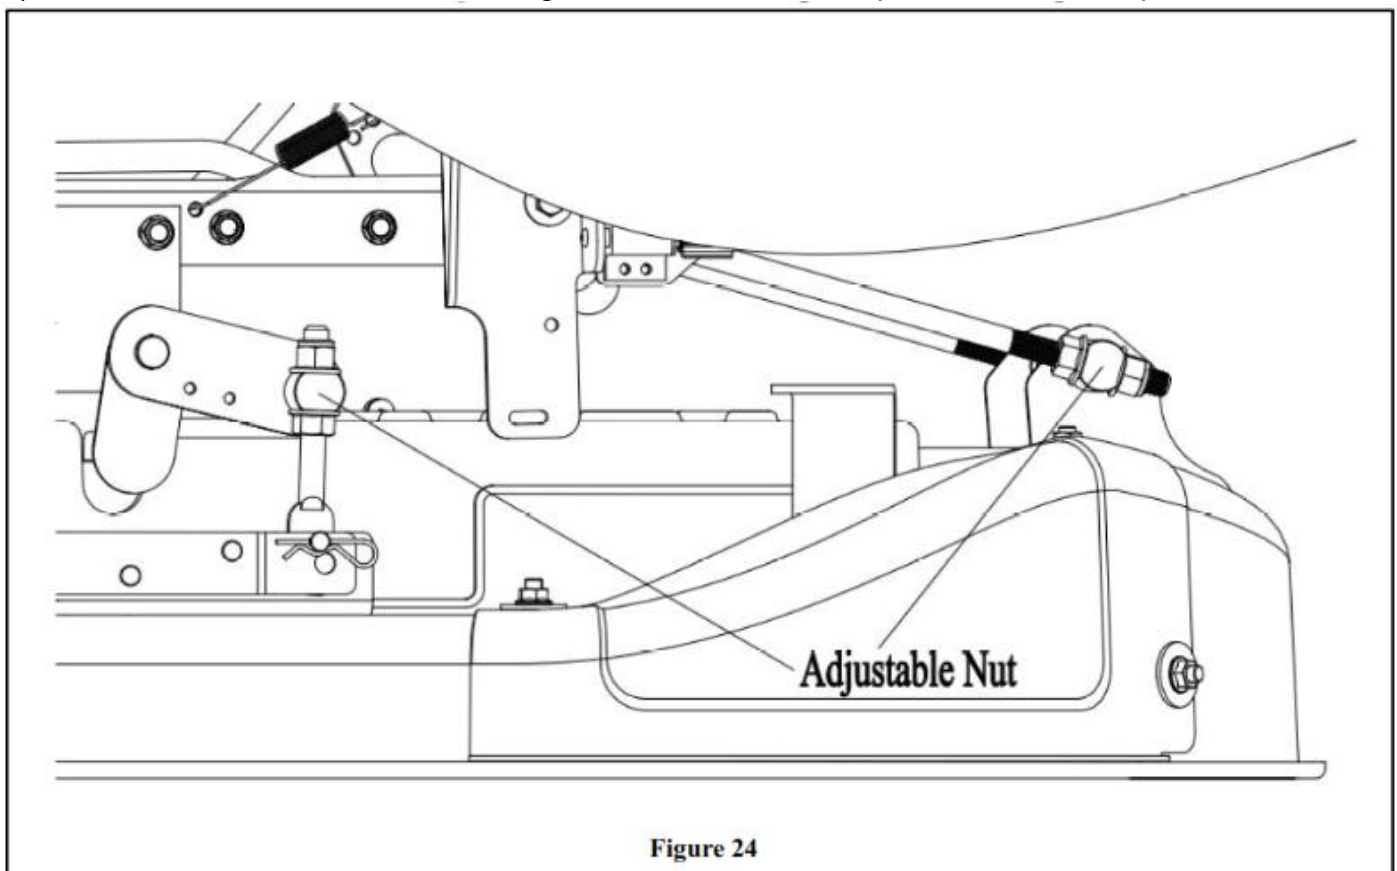

Figure 24
- 5) Loosen the front and rear **adjustable nut** (Figure 24).Make sure both sides of the mower housing are setting on a flat surface.Be noticed that the front height of blade disc to support surface should be 22cm